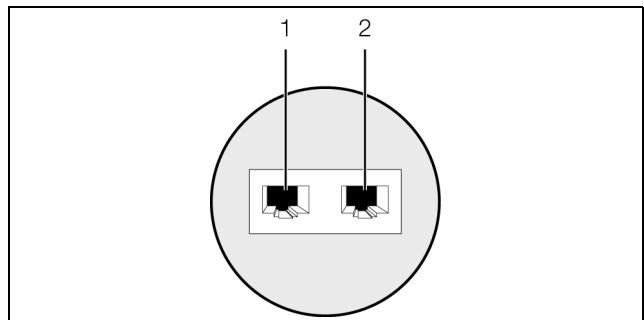

Fig. 3: Rear of the smoke alarm
- Use a CAN bus connection cable to connect the smoke alarm to a CAN bus interface on the CMC III Processing Unit or the neighbouring component on the CAN bus (fig. 3, item 1).
- If necessary, connect another component (e.g. another sensor type) to the second, free CAN bus interface of the smoke alarm (fig. 3, item 2).